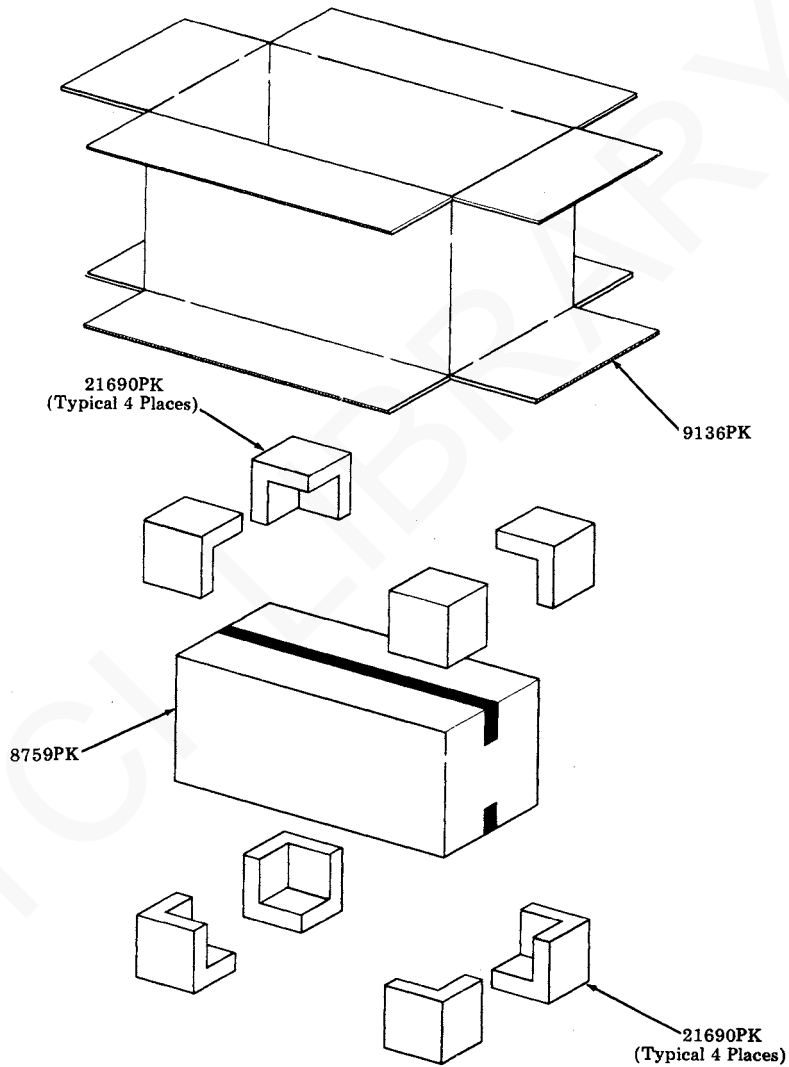

Fig. 61
- Step 8. Form a 9136PK carton. Fold top flaps outward and place around packed unit. See Fig. 61.
- Step 9. Place a 21690PK plastic detail on each of the four corners of the inner carton. See Fig. 61.
- Step 11. Place a 21690PK plastic detail on each of the four corners of the inner carton. See Fig. 61.